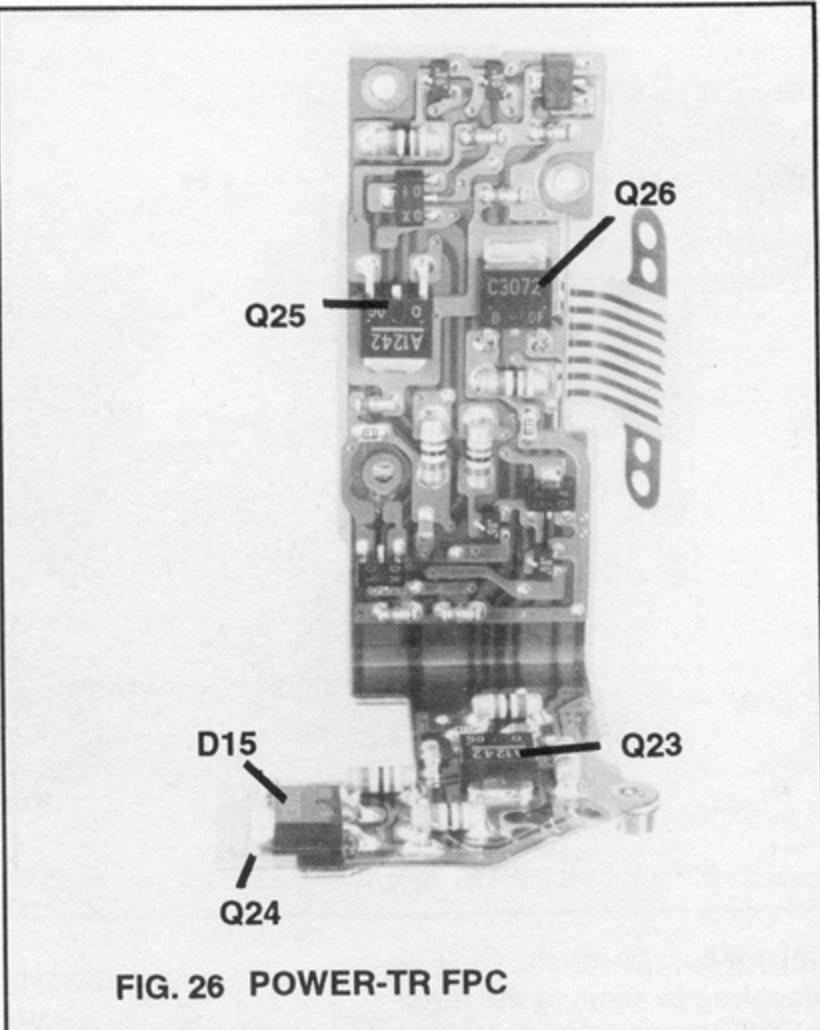

FIG. 26 POWER-TR FPC
23. remove power-tr support plate with power-tr FPC, Fig. 26 (2 countersunk screws)